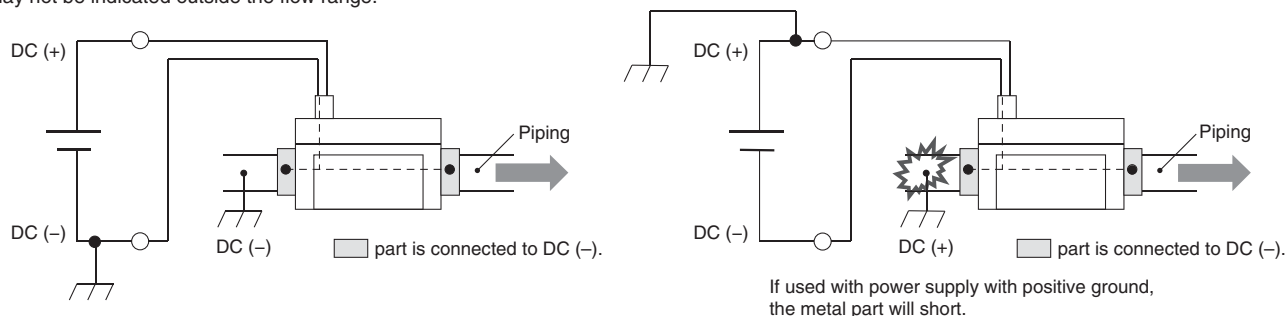

Figure 1
*10 Piping port is grounded to DC(-)/blue line. Power supply with positive ground cannot be used. (Refer to Figure 1.) Please consult SMC if the product is used for positive ground environment.